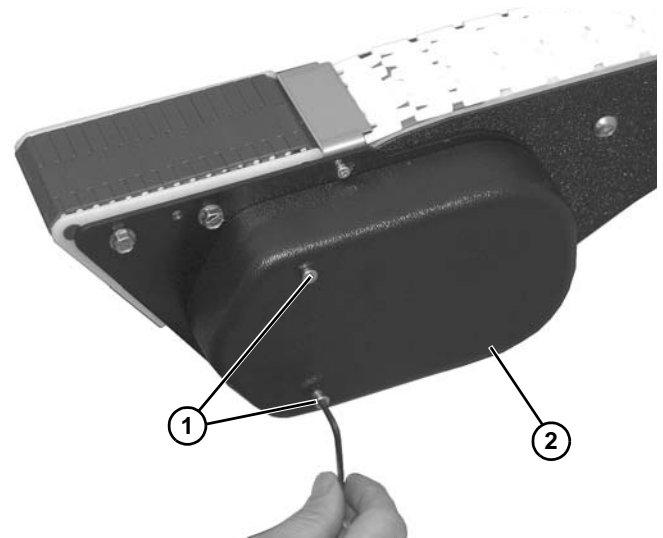

Figure 144
- Remove two socket head screws (**Figure 144, item 1**) and cover (**Figure 144, item 2**) from power transfer assembly.